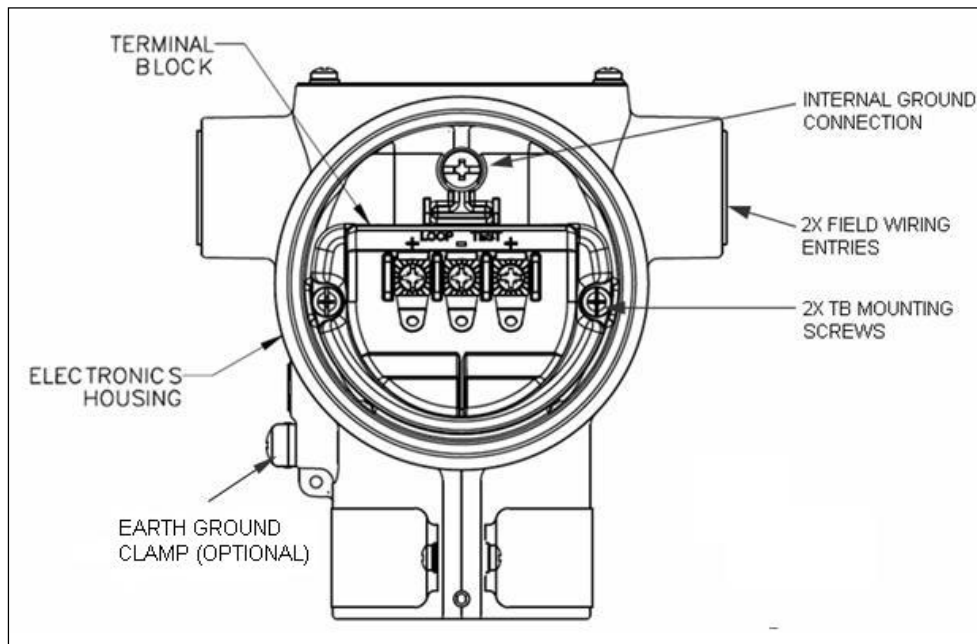

Figure 15 – Transmitter 3-Screw Terminal Board and Grounding Screw
Loop wiring is connected to the Transmitter by simply attaching the positive (+) and negative (-) loop wires to the positive (+) and negative (-) terminals on the Transmitter terminal block in the Electronics Housing shown in Figure 15.
As shown in Figure 15, each Transmitter has an internal terminal to connect it to earth ground. Optionally, a ground terminal can be added to the outside of the Electronics Housing. While it is not necessary to ground the Transmitter for proper operation, doing so tends to minimize the possible effects of noise on the output signal and affords protection against lightning and static discharge. An optional lightning terminal block can be installed in place of the non-lightning terminal block for Transmitters that will be installed in an area that is highly susceptible to lightning strikes.
1. See Figure 15, above, for parts locations. Loosen the end cap lock using a 1.5 mm Allen wrench.
If your Transmitter includes the optional lightning protection, connect a wire from the Earth Ground Clamp (see Figure 15) to Earth Ground to make the protection effective. Use a size 8 AWG or (8.37mm2) bare or green covered wire for this connection.